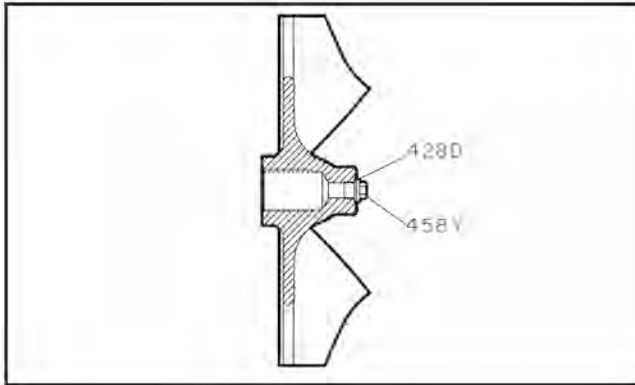

Figure 69:
31. Install Impeller anti-rotation device (458Y) making sure the O-ring (428D) is in good condition. Replace if needed (Fig. 69).